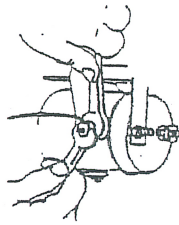

Figure 4 - Proper Terminal Tightening
**CAUTION** When attaching wires to the motor or solenoid terminals, hold the inner nut with a wrench while tightening the outer nut with a second wrench. Do not allow the terminals to rotate in their housings. Rotation may cause internal wire breakage or part misalignment (Figure 4).